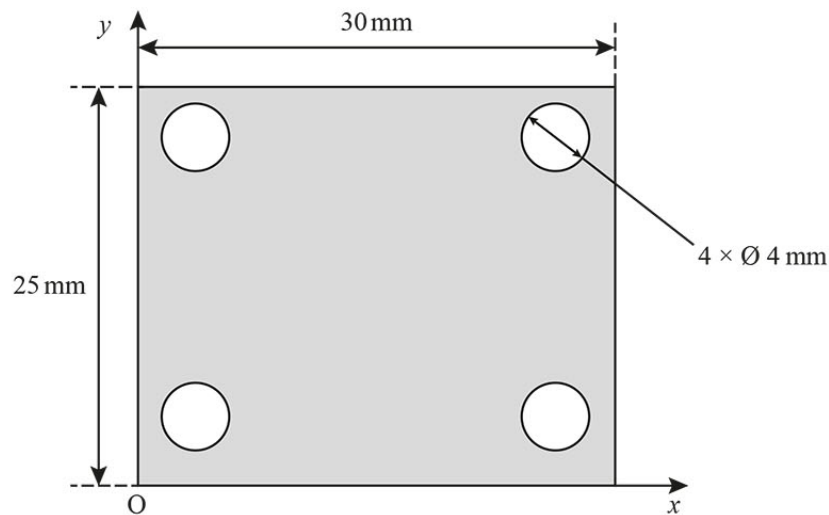

Fig. 6
- (c) Fig. 6 shows an aluminium plate in the shape of a rectangle aligned within a Cartesian coordinate system,  $(x, y)$ , with the origin at the corner marked O. The plate is 30 mm long and 25 mm wide and near each corner is a hole with diameter 4 mm.